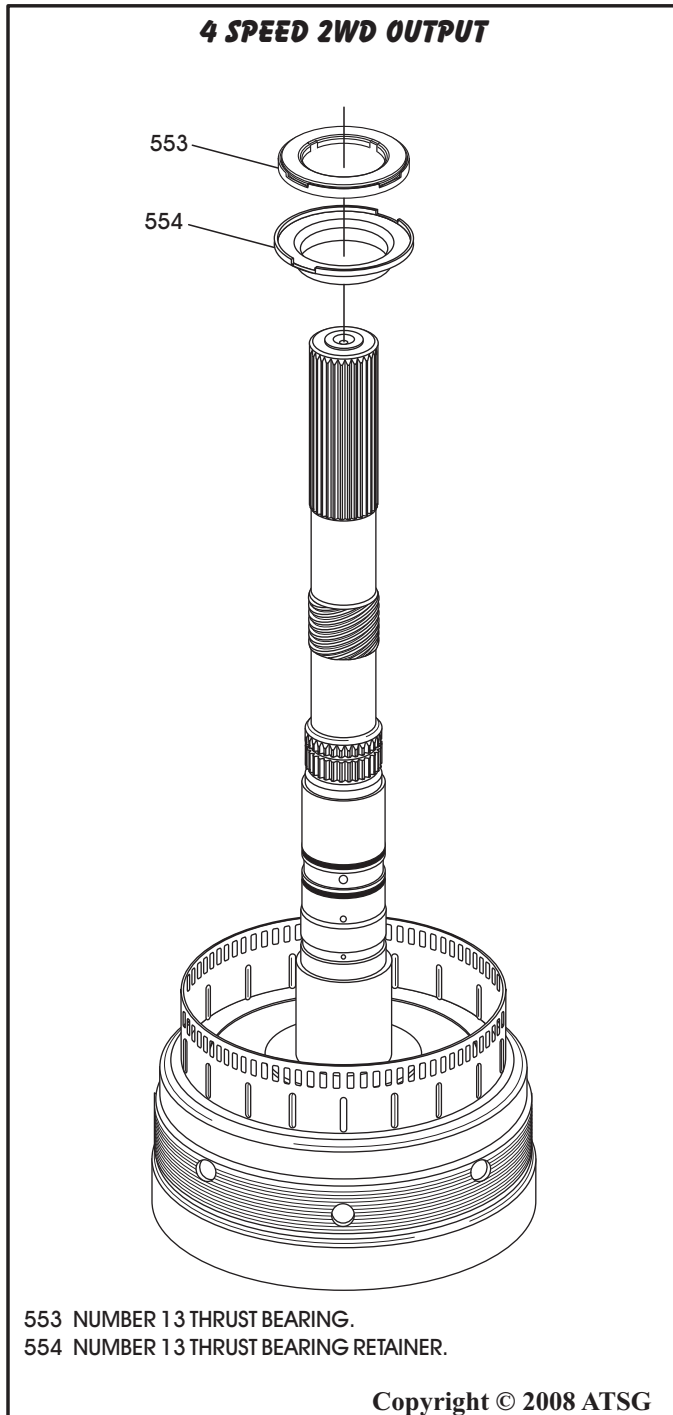

Figure 160
5. If you are working on a 4 speed, install number 13 thrust bearing retainer and the number 13 thrust bearing, as shown in Figure 160.